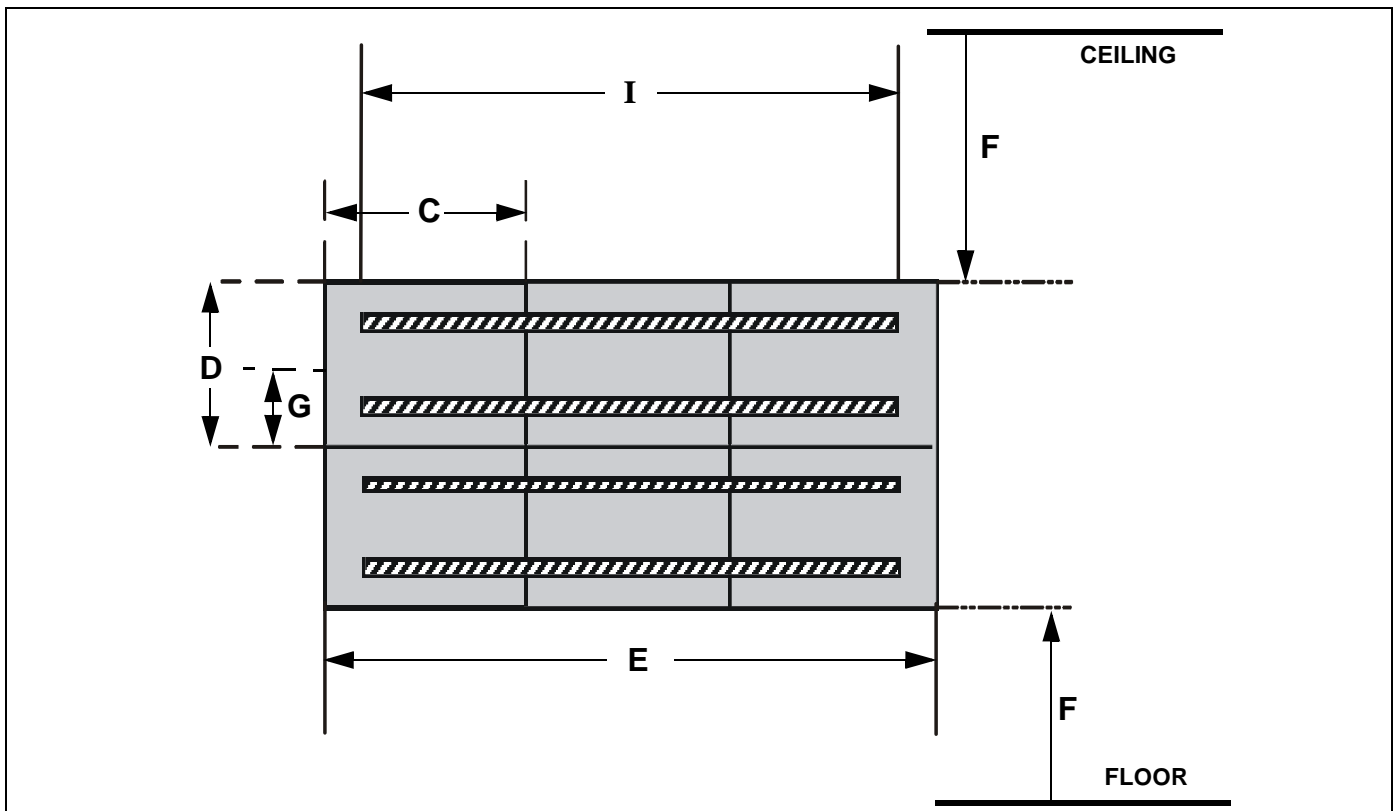
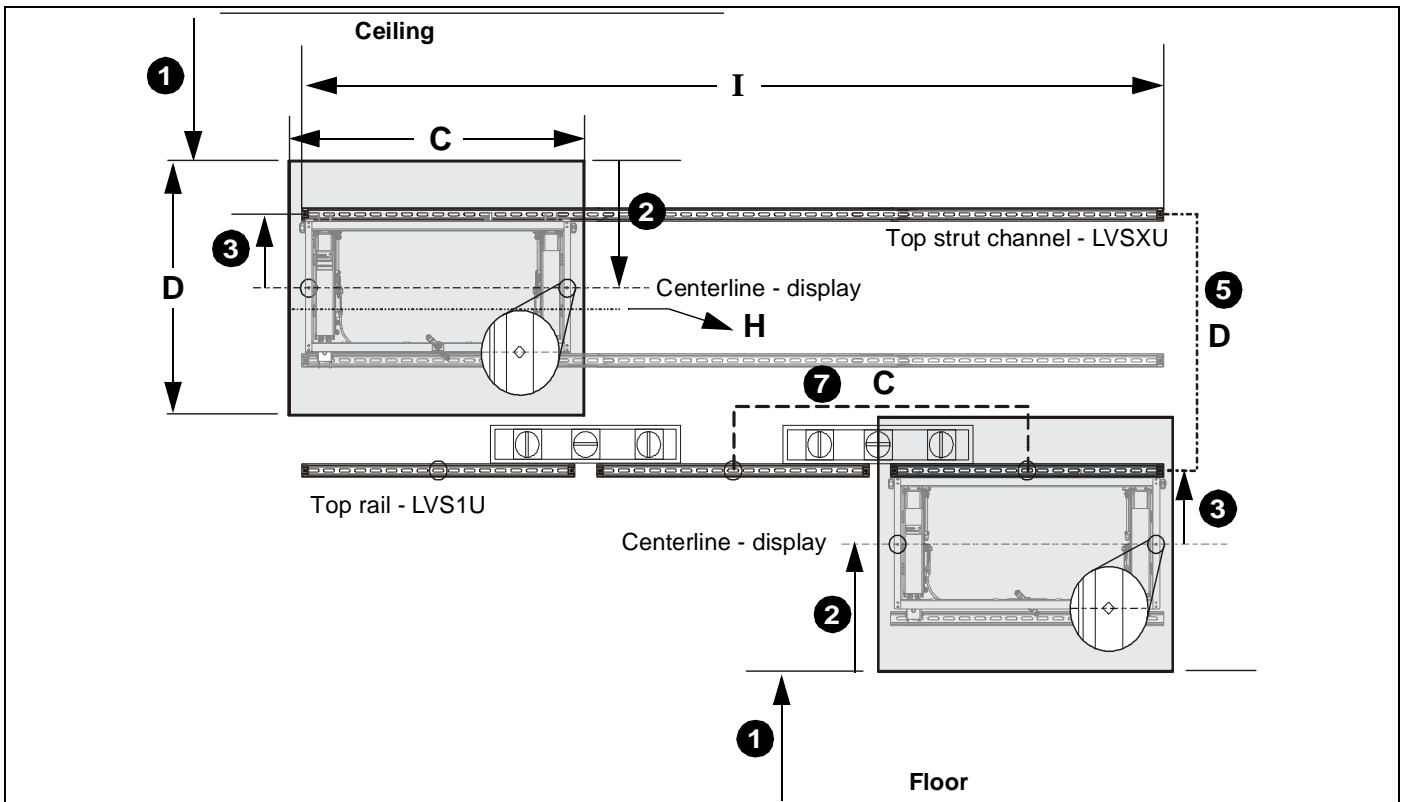

Figure 1
Figure 5
1. Mark distance **(F)** from floor to desired location for **bottom** of display **OR** from ceiling to desired location for **top** of display (if installing top row first). (See Figure 1) and (See Figure 5)
2. Mark distance **(G)** from bottom of display (or top of display) to center line of display. (See Figure 1) and (See Figure 5)
4. Level and attach strut channel/rail (V) using the provided hardware. See **Parts** drawing, (See Figure 5) and (See Table 2).
8. **(LVS1U only)** Measure over **(C)** (width of display) from center of first installed rail, level and mark location of adjacent rail. (See Figure 1) and (See Figure 5)
10. Attach upper rails (V) using **Fastener Information**. (See Table 2)
11. Measure up from attached rails the distance **(D)** and mark for next row of rails (V). (See Figure 1) and (See Figure 5)
13. Repeat Step 11 for any remaining rows of rails (V).